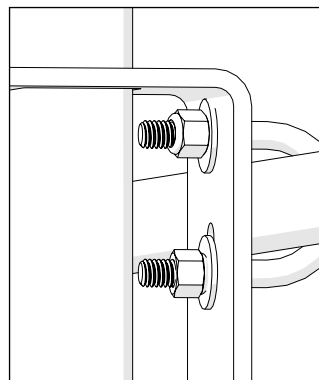

Figure 2
4. Mount the ladder post to the top two ladder rungs with U bolts (Figure 1), washers and locknuts. (Figure 2)